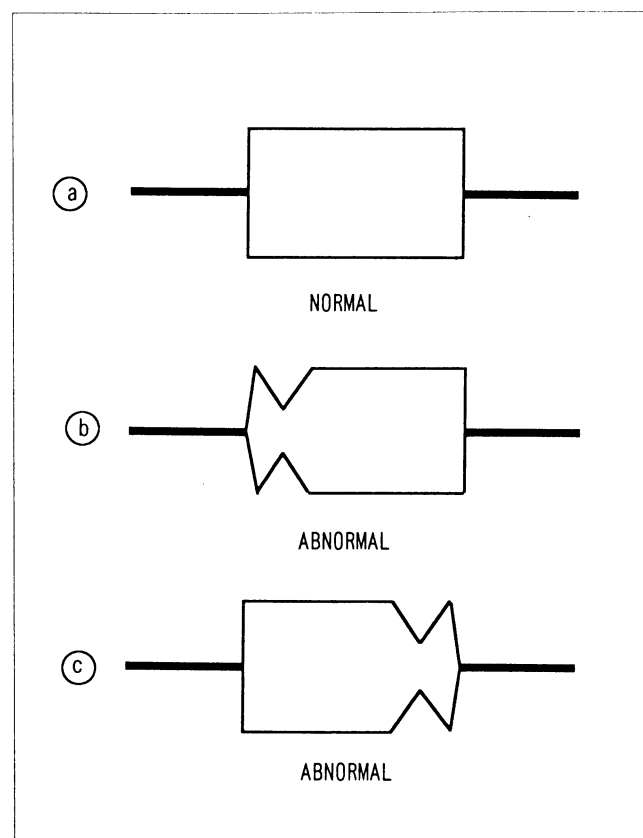

Fig. 1-1
- 3) Play alignment tape for tracking. Confirm RF Waveform on both Take up Side and SupplySide flat (Refer to Fig. 1-1-a). In case that mormal waveform does no appear, adjust by the below method.
- In case of RF Waveform on Take up side not to be flat. (Refer to Fig. 1-1-b)
- In case of RF Waveform on Supply side not to be flat. (Fig. 1-1-c)